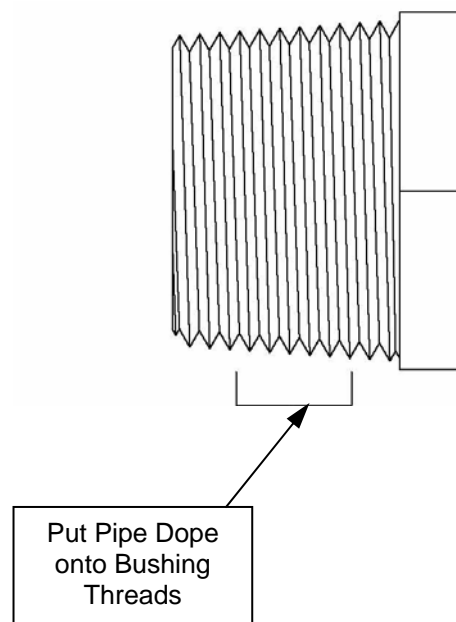

Figure 71
Step 4: Apply pipe dope (suitable for potable water use) to the threads of the bushings, as shown in Figure 71.